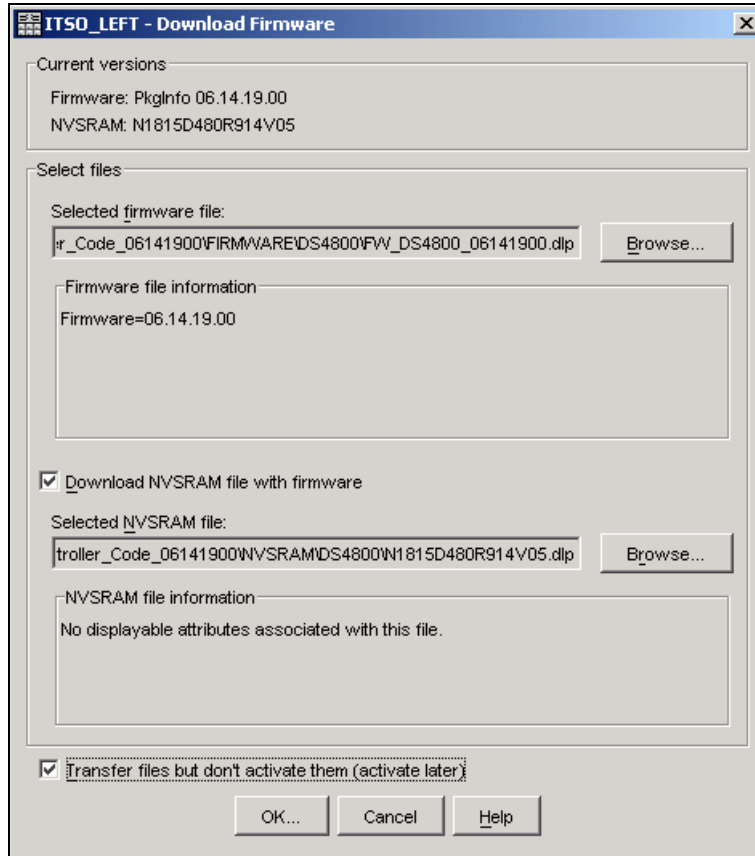

Figure 3-30 Download Firmware window
2. The Download Firmware window opens, showing the current firmware and NVSRAM versions. Select the correct firmware and NVSRAM files, as shown in Figure 3-30. Do not forget to mark the check box to download the NVSRAM file as well.